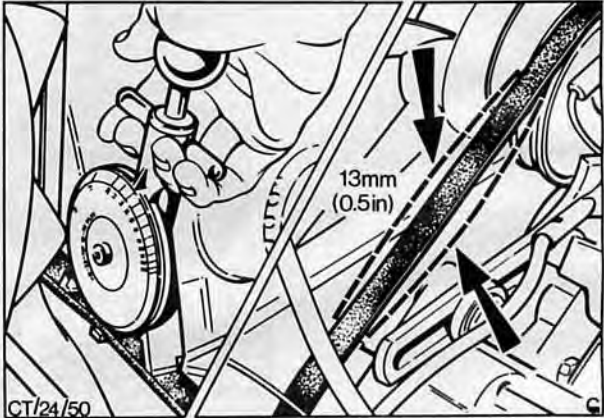

Fig. 5. Free movement measured on longest span
- 3. Check that total free movement on longest span of belt is approximately 13 mm (0.5 in) applying normal fingertip pressure, Fig. 5.
Alternatively, a belt tension gauge tool, similar to that shown in Fig. 5 can be used to measure the belt tension. For belt tensions refer to Technical Data.
Alternatively, a belt tension gauge tool, similar to that shown in Fig. 5, can be used to measure the belt tension. For belt tensions refer to Technical Data.